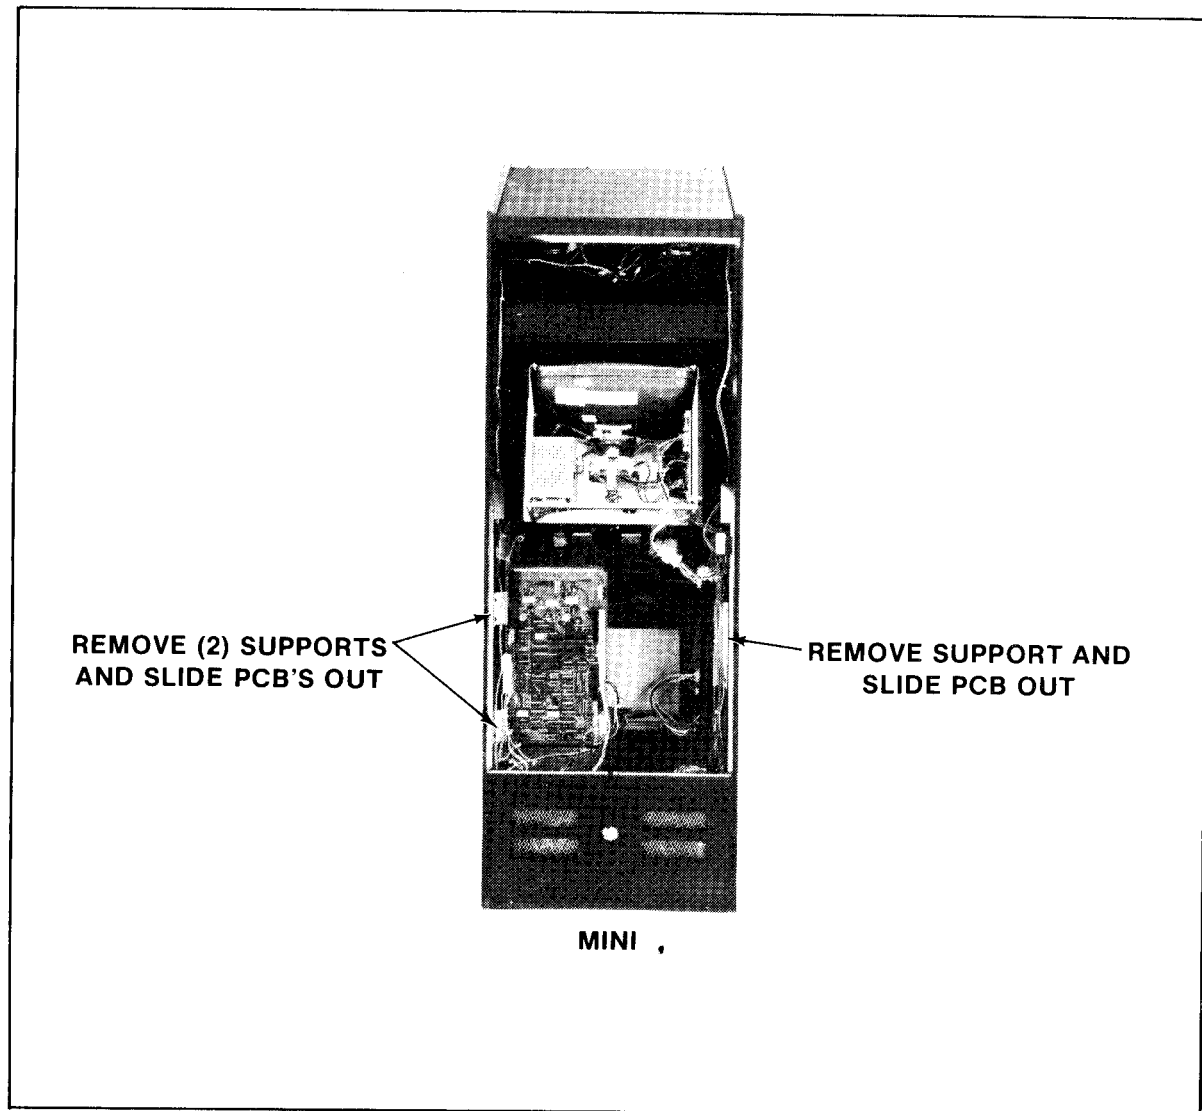

FIGURE 32
2. Mini model — See Figure 32.
- d. Disconnect the mother board from all its cabling, remove the P.C.B. supports indicated in Figure 32, and slide the mother board out the back of the cabinet.
- e. Disconnect the linear power supply board from all its cabling, remove the P.C.B. supports indicated in Figure 32, and slide the linear power supply board out the back of the cabinet.